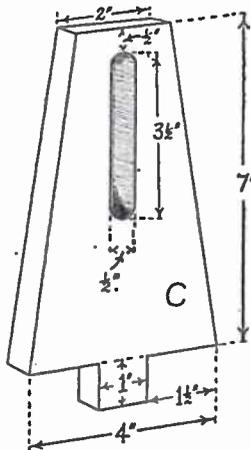

Fig. 3—The pillar (cut two)
The pillars (C) and sliding column (D) are also cut from ½in. wood. The necessary measurements for these are given in Figs. 3 and 4. As laboratory fittings are liable to come in contact with water, balsa cement and not glue should be used for fixing the pillars to the base.